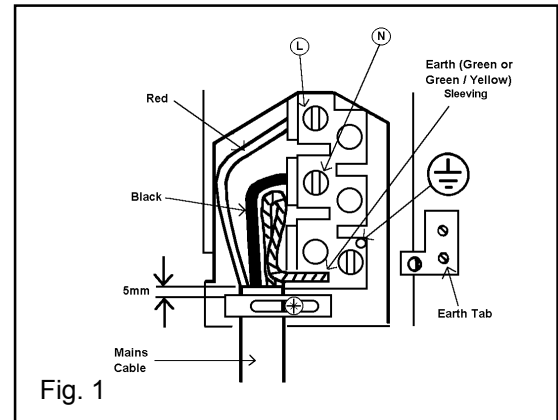

Fig. 1
- Do not remove the screws from the earth tab extending from the oven mains terminal block (Fig. 1).